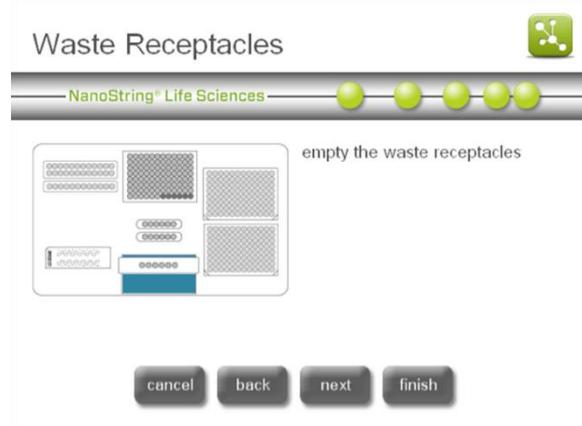

Figure 18: The ‘Waste Receptacles’ screen.
- The ‘Waste Receptacles’ screen will appear (**Figure 18**). Remove the liquid waste container from the combined receptacle and dispose of the liquid appropriately. See the previous section on Waste Removal for further information.